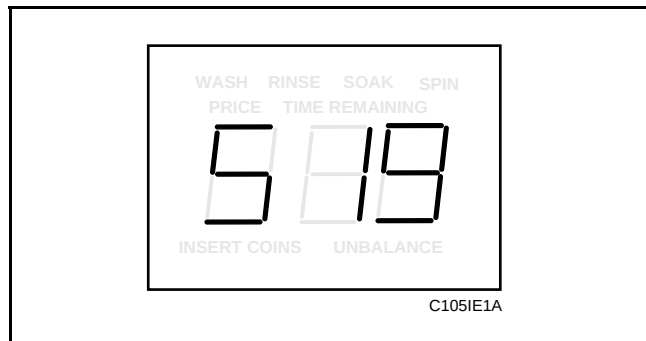

Figure 61
2. While pressing and holding the PERM PRESS keypad with one hand, press the COLD keypad with the other hand. Programmable option number one, “Slg”, will appear in the VFD. See **Figure 61**.